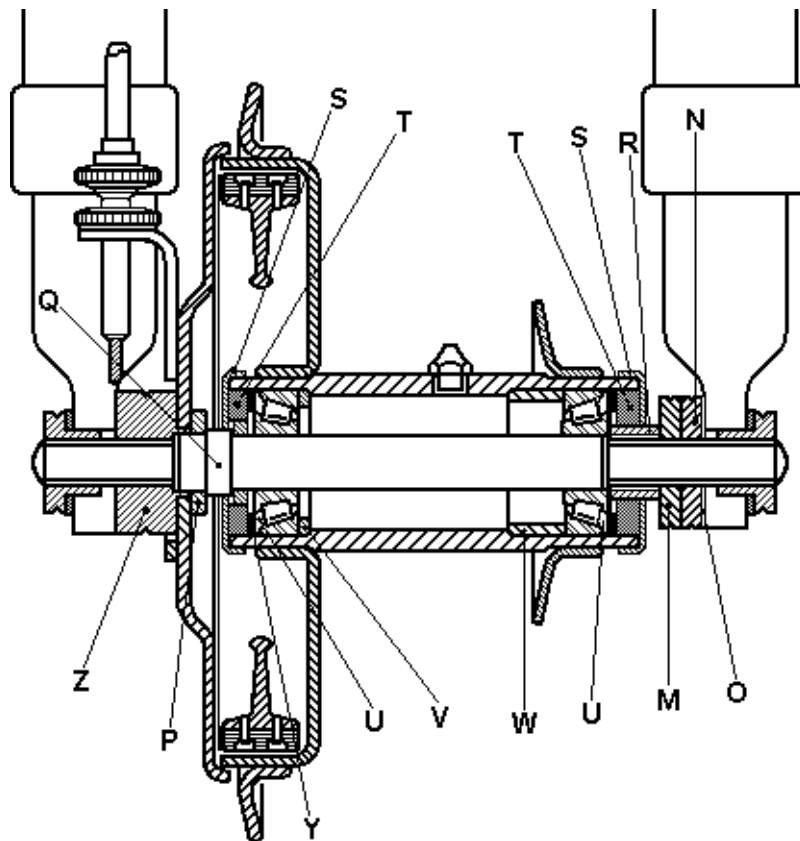

Fig. D23a.
The front hubs are fitted with adjustable taper-roller bearings as illustrated in Fig. D23a, but instructions for removing the wheel and dismantling the brake are identical with those for standard machines.
All references will be to Fig. D23a.
The dimension over the front hub locknuts, inside the fork ends, must be maintained between 4.910 -- 4.920 in. To adjust, use shims part number 90-5545 as required, between locknut and bearing abutment nut. On competition models the shims can be interposed at point (O) Fig. D23a, to avoid disturbing the bearing adjustment. It will be necessary to add shims periodically, as bearing wear progresses, and after each re-adjustment.